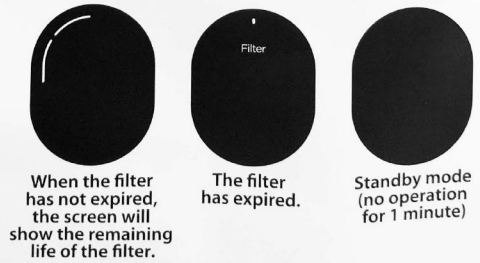

Figure 2
- The faucet is turned off: When the RO system is powered on, the screen will show the filter's status. If there is no operation for 1 minute, the screen will switch to standby mode (Figure 2).